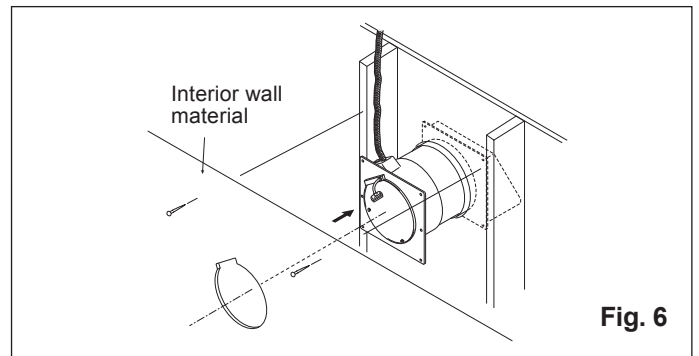

Fig. 6
8. Using enclosed template (pattern paper), mark and cut the opening in the interior wall cover. (Fig. 6)